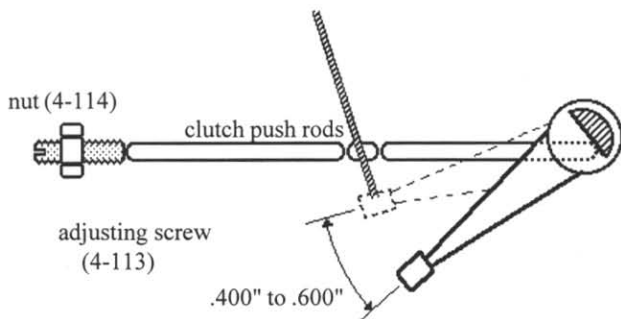

Figure 41. Clutch adjustment
- 30.7. Adjust the clutch by loosening the *locknut (4-114)* and *adjust screw (4-113)* to provide 10mm (.400" to .600") movement of the *clutch lever (4-116)*. See figure 41.